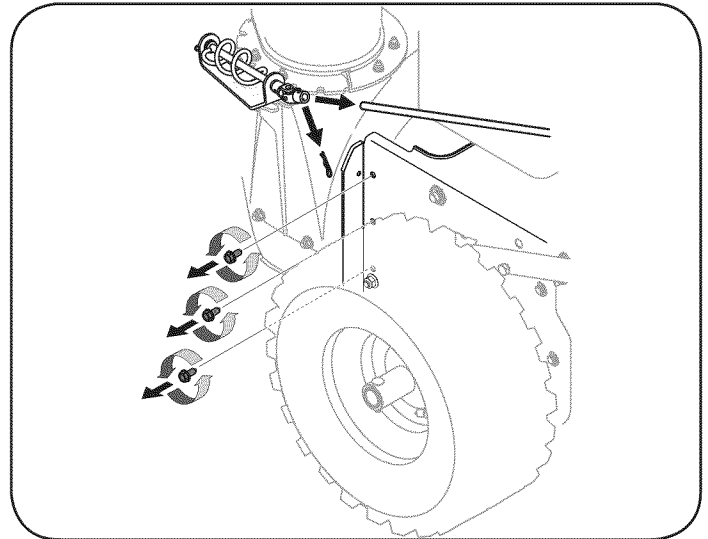

Figure 29
1. Remove the chute crank rod from the chute crank assembly by removing the hair pin clip shown in Figure 29. Move the chute crank rod away from the assembly as shown.
2. Remove three self-tap screws on both sides of the transmission housing as shown in Figure 29.
- From both sides of the the frame assembly, use a 1/2" wrench to remove the three hex tap screws securing the frame to the auger housing assembly. Refer back to Figure 29.